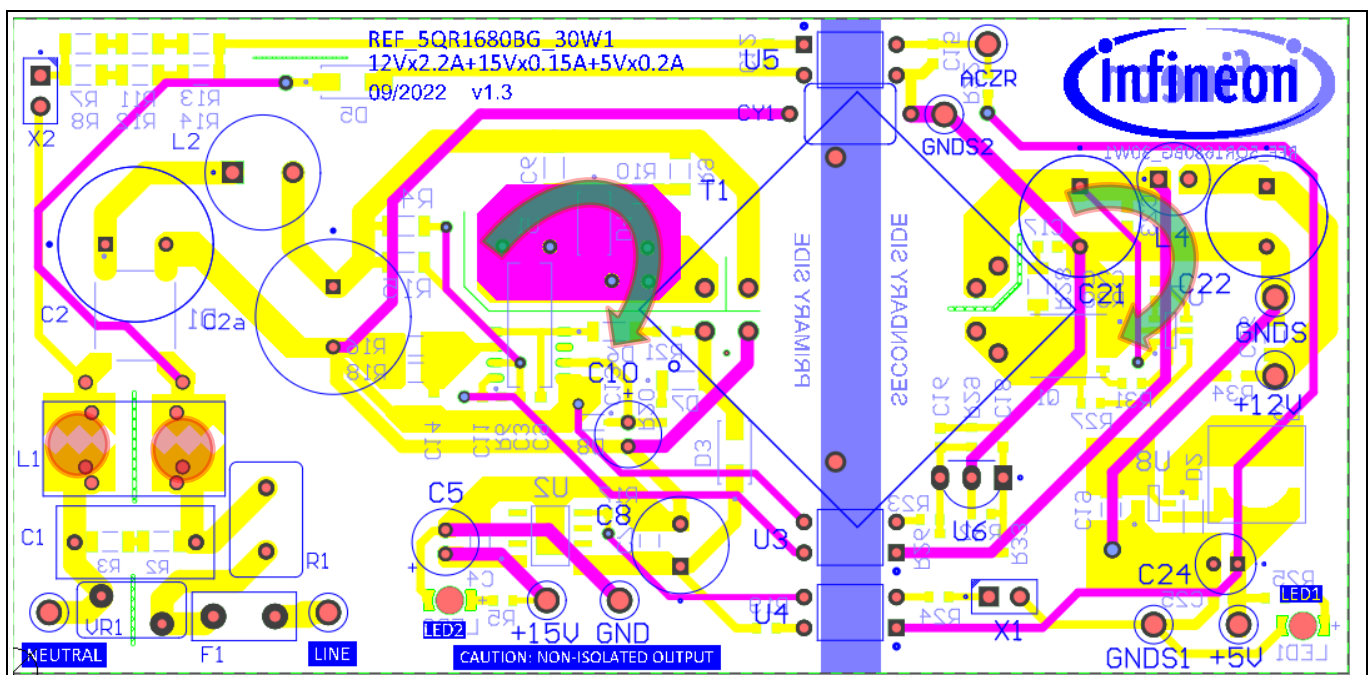

Figure 4 PCB layout tips
- The power loop needs to be as small as possible (see **Figure 4**). There are two power loops in the reference design; one from the primary side and the other from the secondary side. For the primary side, it starts from the bulk capacitor (C2a) positive to the bulk capacitor negative. The power loop components include C2a, the main primary transformer winding (pin 8 and pin 10 of T1), the drain pin and CS pin of the CoolSET™ U1 and CS resistors R16 and R18. For the secondary side, the 12 V output starts from the secondary transformer windings (pin 6 and 7 of T1), SR MOSFET Q1 and output capacitors C21 and C22.